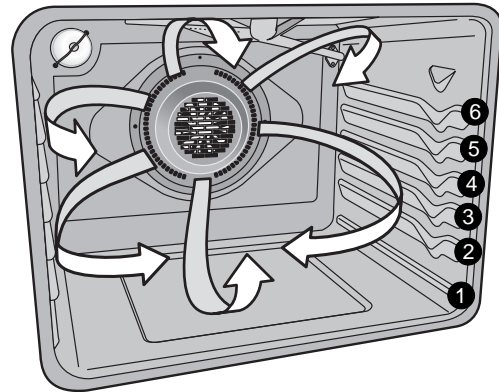

Figure 29: Oven rack positions and air circulation
- For best results when using a single oven rack, place rack in position 3 or 4 (Figure 29). When using 2 oven racks, place in positions 3 & 5. When using 3 oven racks place in positions 2, 4, & 6 (use offset rack only in position 6).